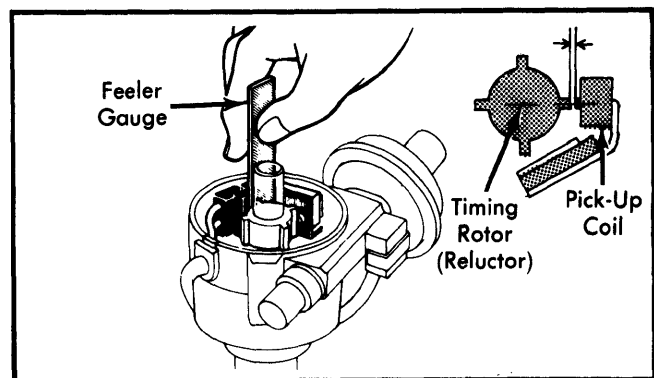

Fig. 3 Checking Timing Rotor-to-Pick-Up Coil Air Gap (Toyota Shown)
10) If in step 1), the voltage at one resistor terminal was one-half that of the other, turn ignition switch "ON". See Fig. 3. Connect negative lead of voltmeter to a good ground and